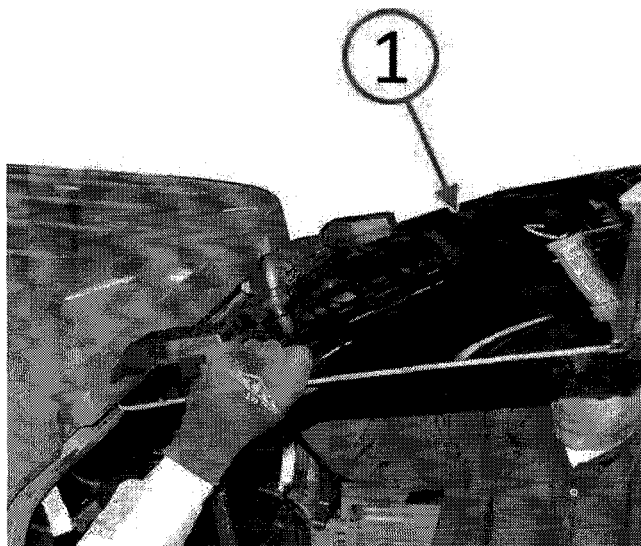

Fig. 2 Remove Backlite
1. Remove the backlite (Fig. 2). Refer to the detailed service procedures available in DealerCONNECT> TechCONNECT under: Service Info> 23 - Body/Stationary Glass/BACKLITE/Removal.